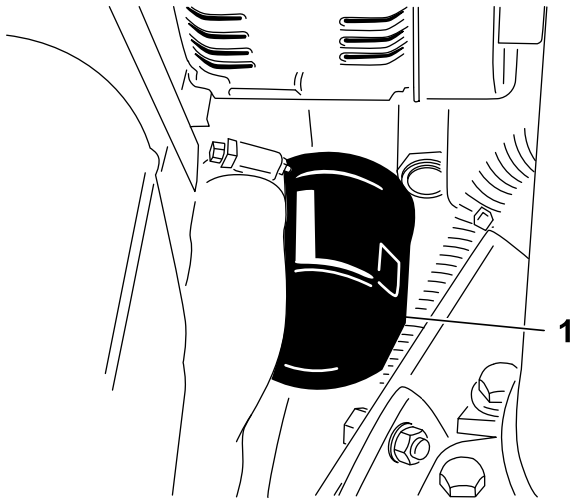

**Figure 44**
1. Remove either drain plug (Figure 44) and let oil flow into a drain pan. When the oil stops flowing, install the drain plug.